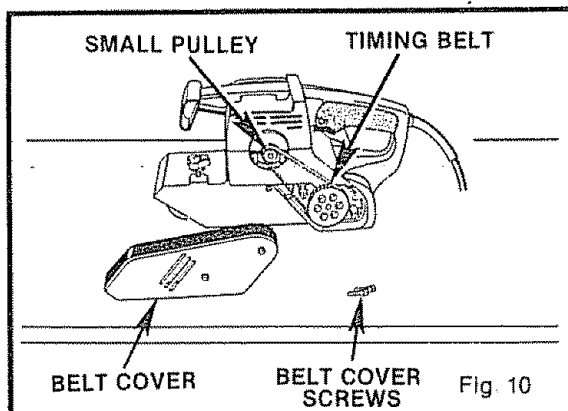

Fig. 10
4. Install new belt over large pulley first. See Figure 10.